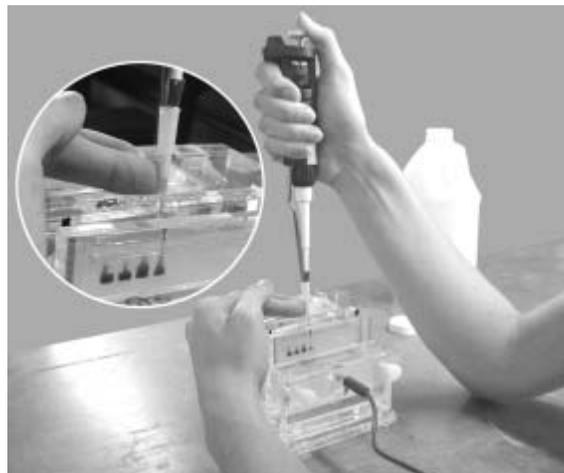

Figure 4. Loading samples into the polyacrylamide gel.
- Slowly expel the sample into the well (see Figure 4).